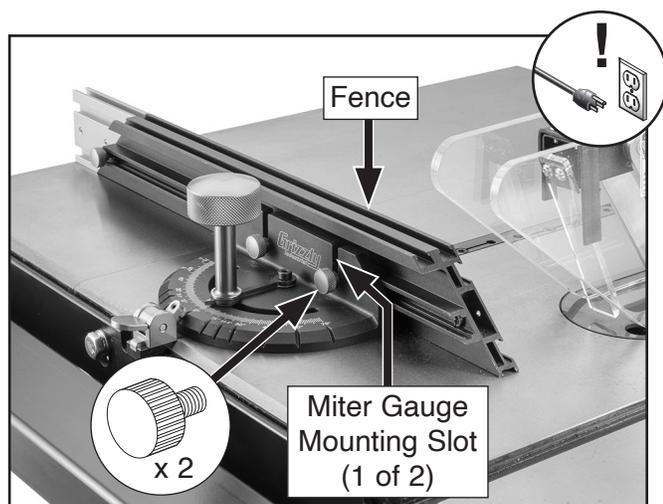

Figure 6. Fence attached to miter gauge.
- Place fence against miter face, and move T-slot nuts so they align with mounting holes/slots in miter gauge face (see **Figure 6**).
- Insert (2) knob bolts assembled in **Step 3** through miter gauge face and loosely thread them into T-slot nuts (see **Figure 6**).